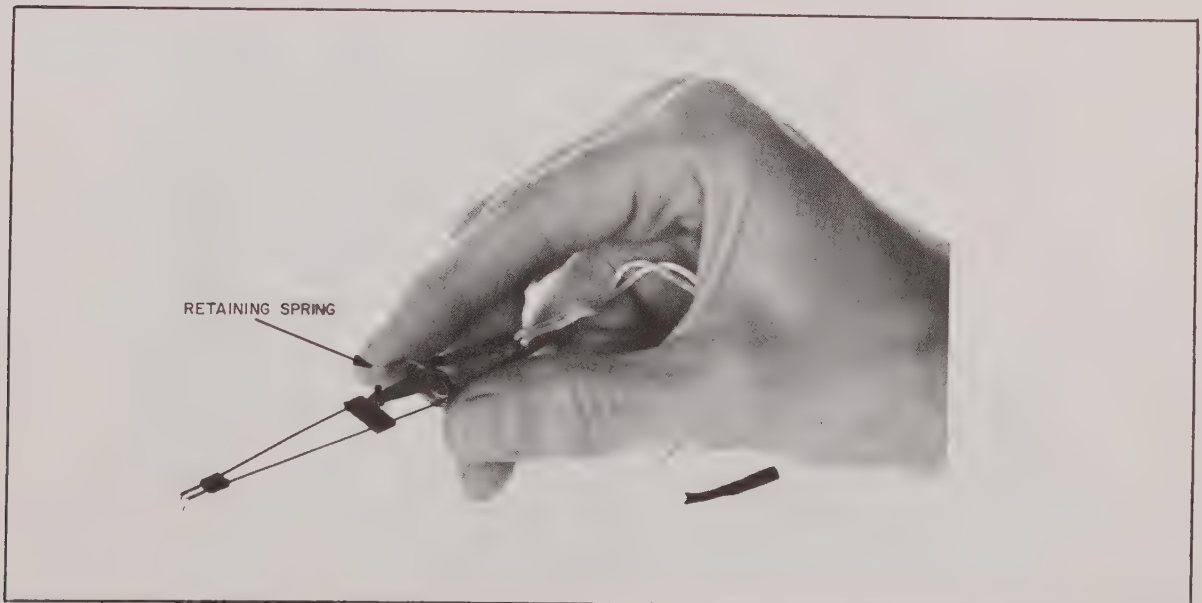

Figure 2-2. Installing and Removing Analog Style, Step 2.
2. Take new pen, squeeze retaining spring (figure 2-2).